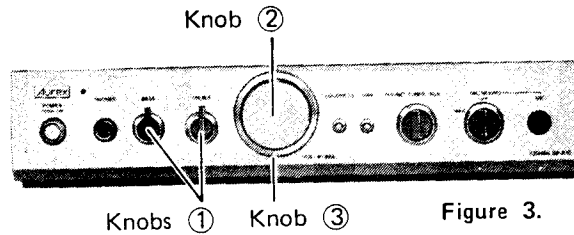

Figure 3.
1. Remove the four knobs ①, ②, ③. See Figure 3.